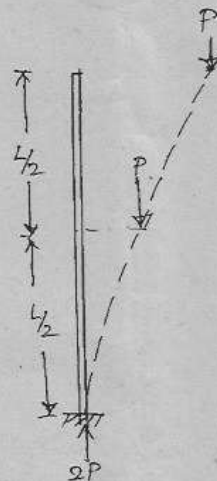

Fig.3
16. (a) Using Energy approach, determine an approximate value for the critical load of the column shown in Fig.3.